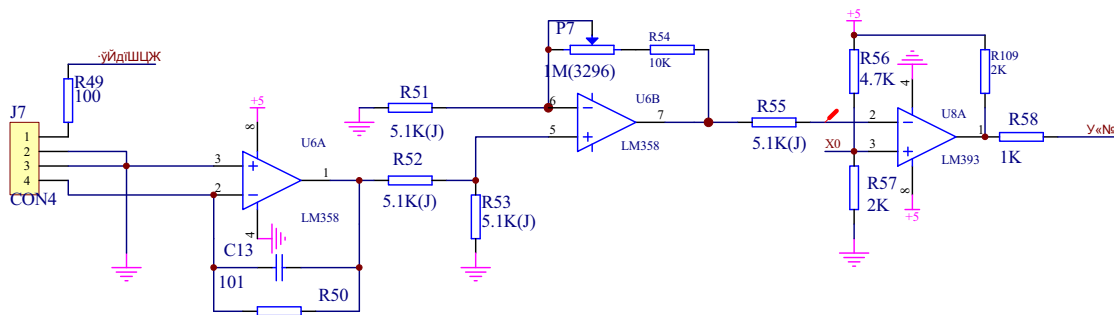

Fig.16A2 UV Sensor Circuit Diagram
(2) NEW PRO85, PRO85U (Fig.16A2)
8.4 Width sensitivity adjustment (Refer to Fig.16)
Adjust the oscillograph at 0.1ms level to detect the signal of 14Pin of U2. When machine works normally, can get the wave graph as Fig. 16. You can change the length of the T_A and T_B by adjusting P3, adjust it clockwise the T_B will increase while the T_A decrease; adjust it counterclockwise the T_B will decrease while the T_A will increase, until $T_A=T_B$ which is the normal state.